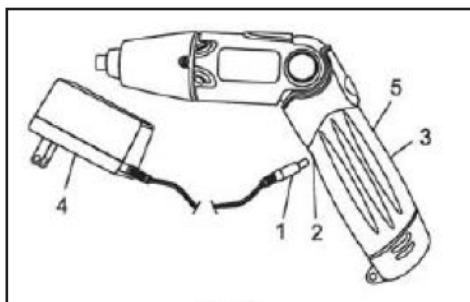

Fig.1
2. Insert the battery charger plug (1) into the charger receptacle (2) In the handle of the cordless screwdriver (3) (Fig. 1).
3. Plug the battery charger (4) into a 120 V 60 Hz wall receptacle.